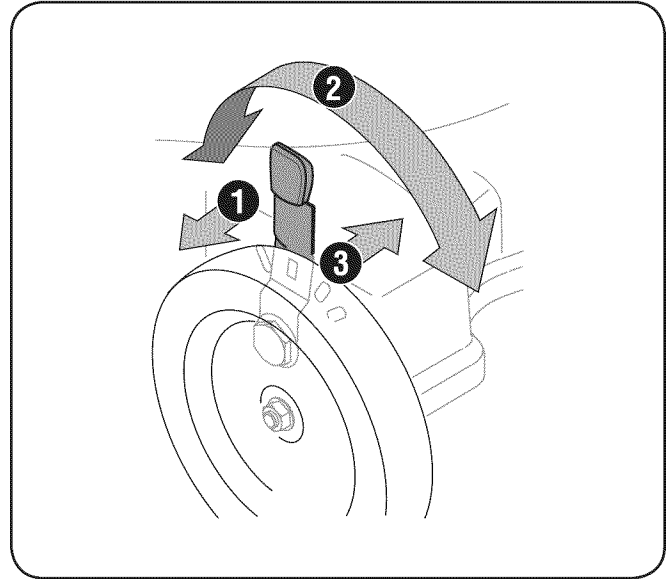

Figure 3-8
2. Slide the lever to the desired position for a change in cutting height. See Fig. 3-8.